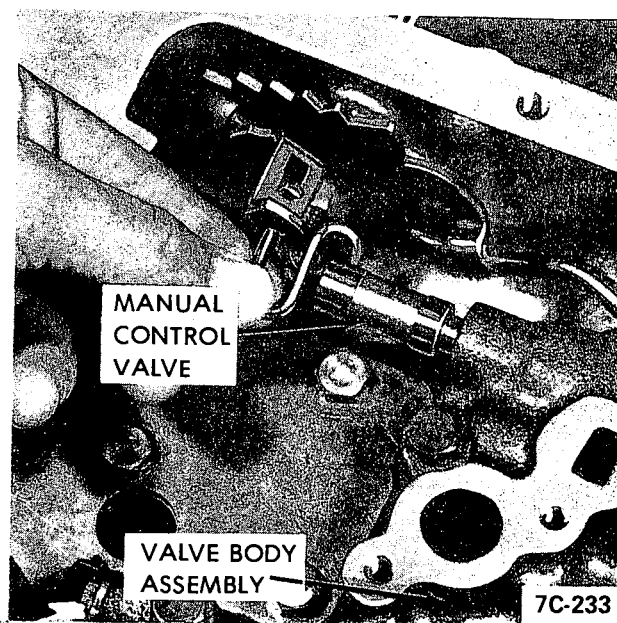

Figure 7C-183
4. Connect detent control valve wire to detent valve actuating lever. See Figure 7C-182.